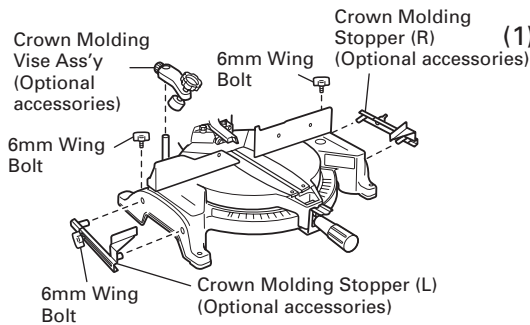

Fig. 30-a
(1) Crown molding Stopper (L) and (R) (optional accessories) allow easier cuts of crown molding without tilting the saw blade. Install them in the base both-sides side to be shown in Fig. 30-a. After inserting Tighten the 6mm knob bolts to secure the crown molding Stoppers.